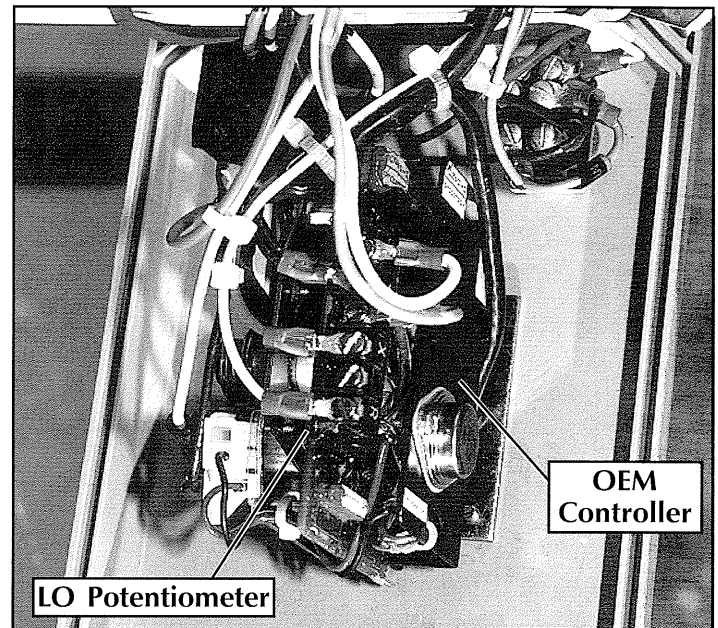

Figure 3-9: OEM Proportional Controller Adjustment
4. Adjust 'LO' trim pot if required, turning clockwise increases speed. (Figure 3-9)